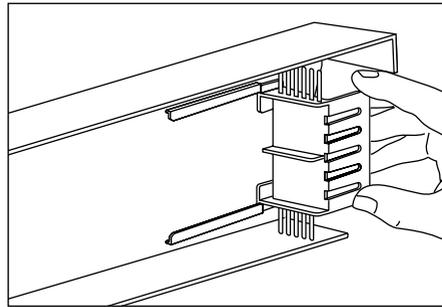

Fig. 2 – Locate starter insert in dry verge unit
- 5 Slide starter insert into internal fixing channels of dry verge unit, and position assembly over eaves roof tile into position at which it will be fixed (Fig. 2).